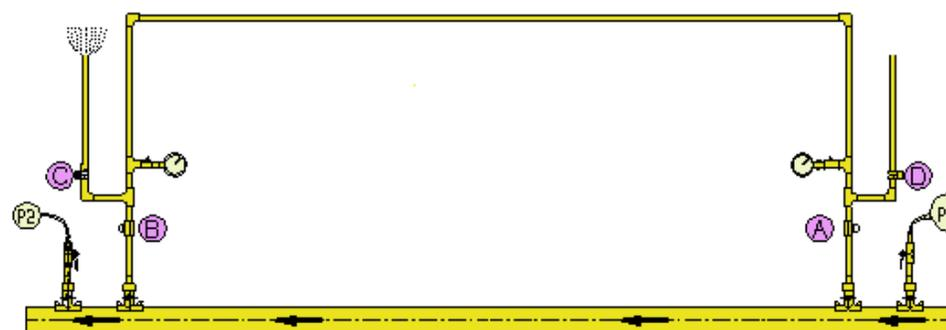

Figure 34- Testing the Bypass
1. The bypass must be pressure tested as follows: (see Figure 34)